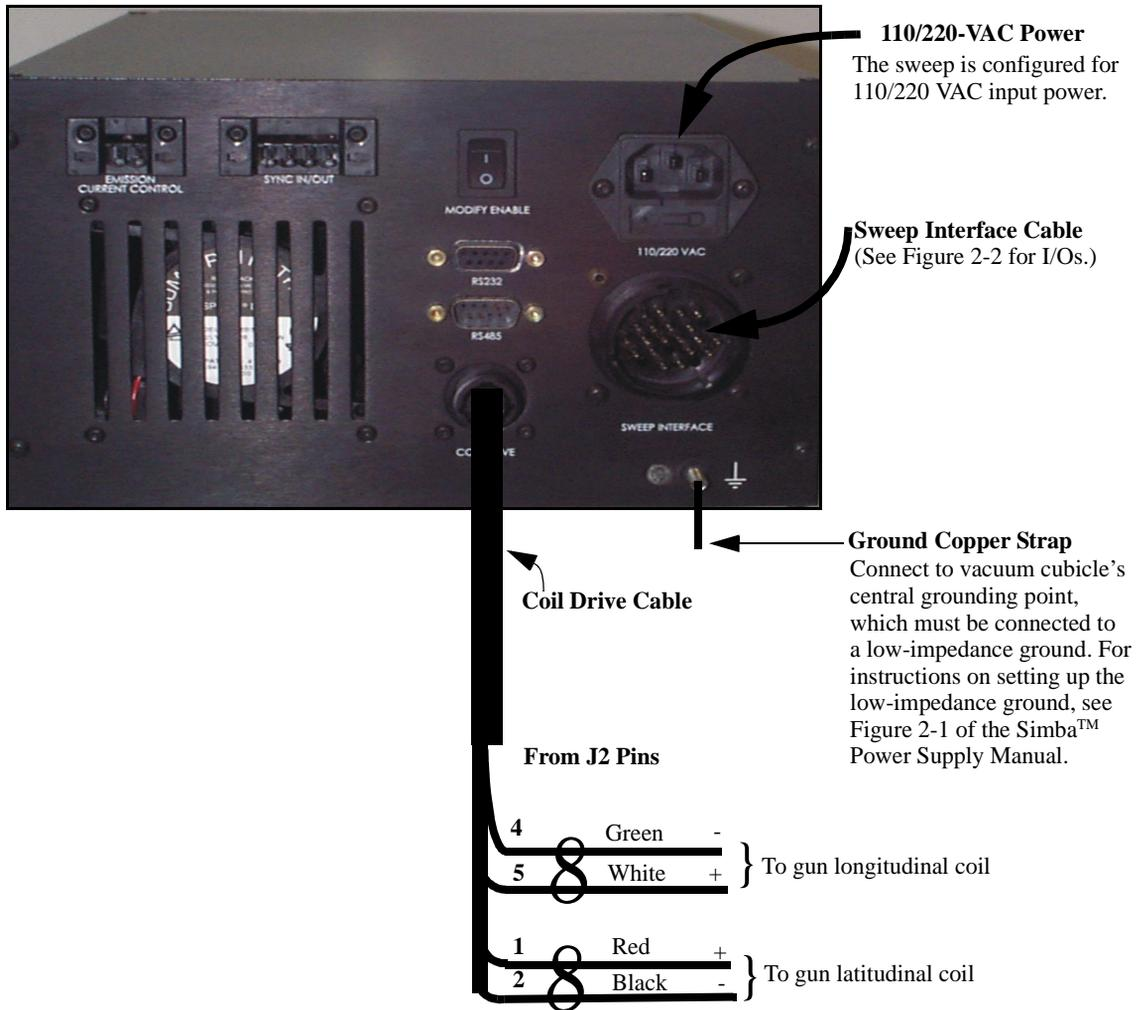

Figure 2-1. Rear Panel Connections
Refer to Figure 2-1 and follow the procedure described below in connecting the beam position cable (PN 0040-3740-0 for 20-ft. cable, PN 0040-3740-1 for 40-ft. cable) to the coil current feedthrough and to rear panel connector J2.
6. Connect the rear-panel GND lug to the central grounding point in the vacuum cubicle with a length of 1/2-inch-wide copper strap. The central grounding point **MUST** be properly connected to a low-impedance ground (for instructions see Figure 2-1 in the instruction manual for the Simba™ 2 Power Supply).